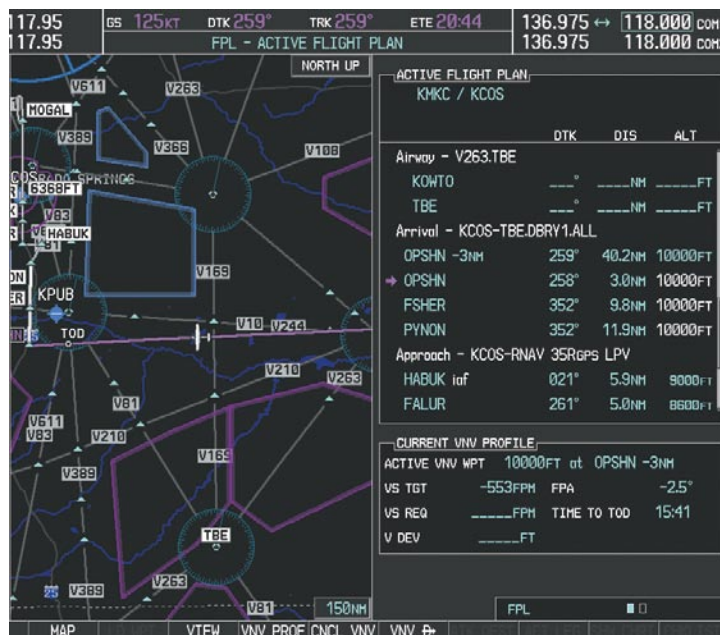

Figure 5-126 Adjusting the Descent
- Press the **VNV PROF** Softkey to place the cursor in the target vertical speed field (VS TGT) as shown in Figure 5-126.